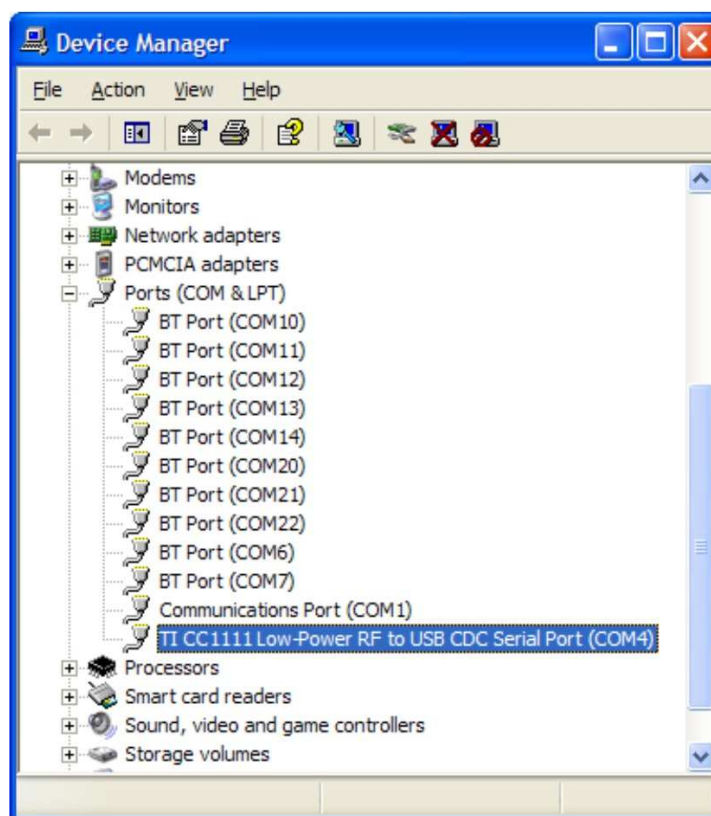

Figure B-7. eZ430-Chronos Access Point in Windows Device Manager
8. The Windows Device Manager lists the device *TI CC1111 Low-Power RF to USB CDC Serial Port (COMx)* in *Ports (COM & LPT)* (see Figure B-7).